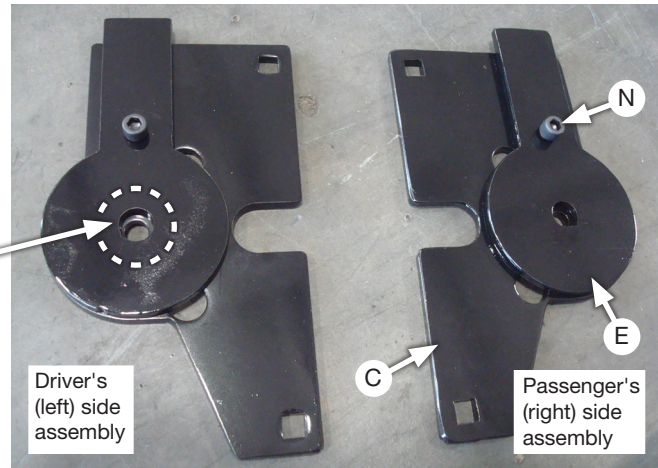

Fig. 8
1. Once assembled, the upper frame bracket (C) will be a left- and right-hand unit. Set the brackets in front of you in a mirror image (Fig. 8) and install the frame adapters (E) using the 5/16" socket-head cap screws (N). Align the brackets so the holes in the middle line up and torque the hardware to 19 lb.-ft. (25Nm).